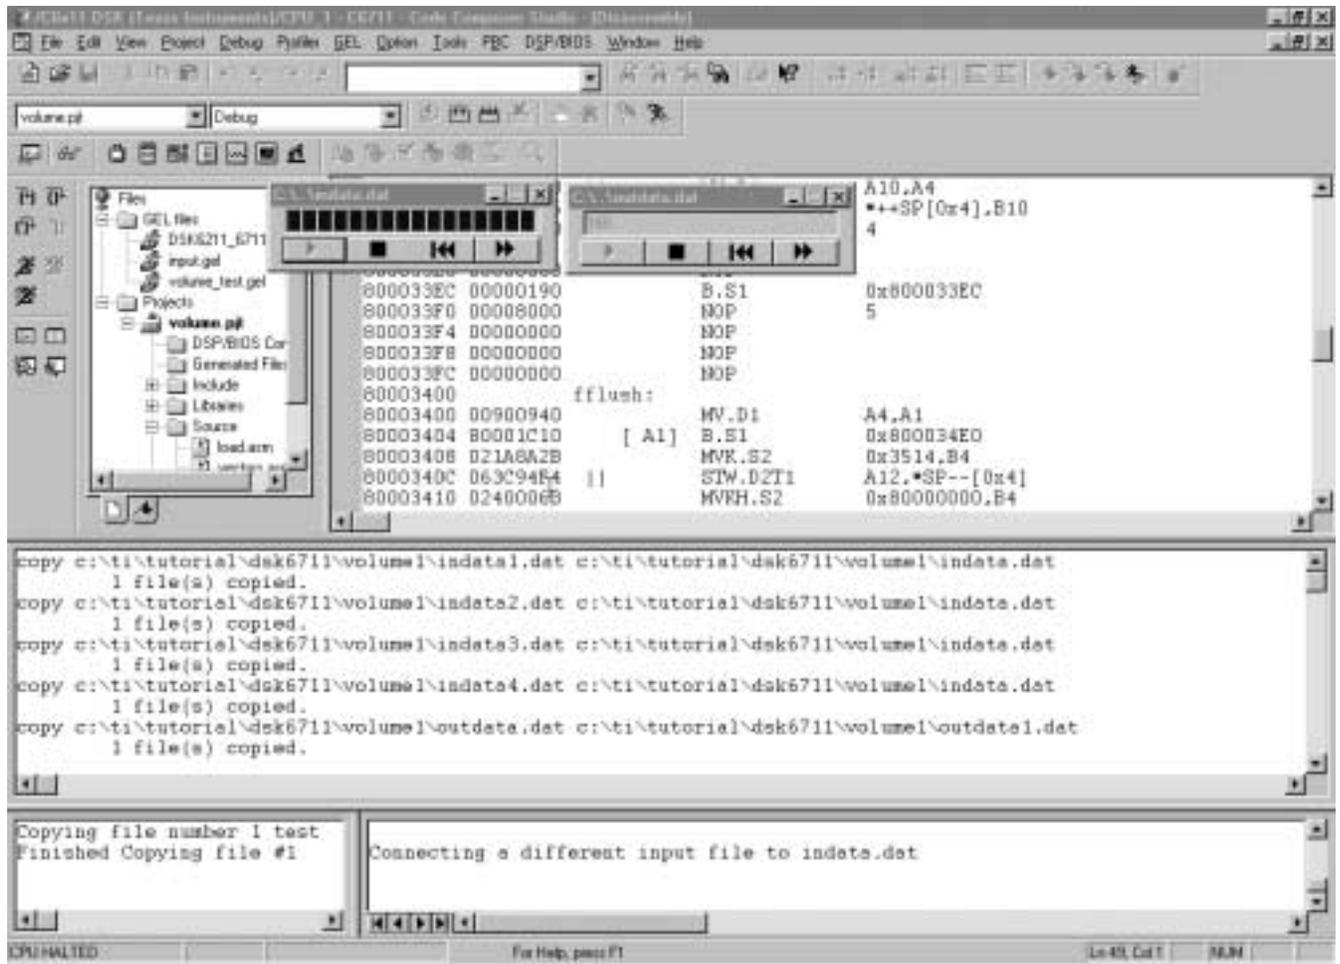

Figure 6. Output Screen of Multiple Vector Case
10. Verify the results by checking the contents of the data files. All of the data from the three files is there, except their positions have been pushed down. For example, at the end of the test, the contents of `indata4.dat` should have been copied into `indata.dat`. Also, for this particular machine, the resultant output file `outdata.dat` is given in Appendix F. After rearranging, the developers screen should look similar to Figure 6.